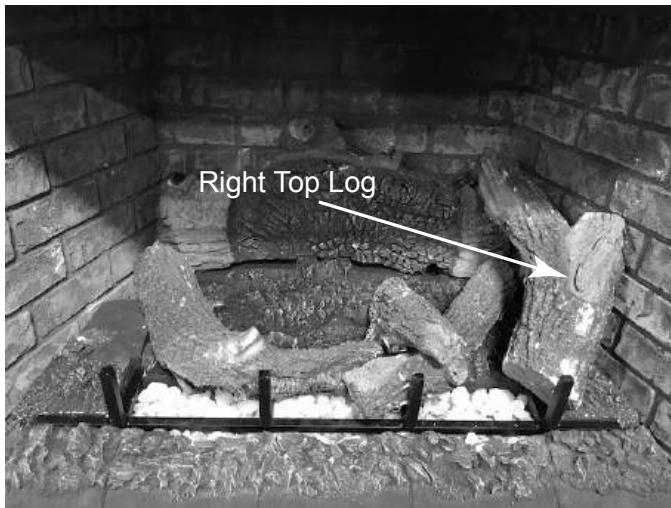

Figure 11.18
- Locate the right top log by placing the notch on bottom of right top log on to the locating point on top of rear log. Front of log will fit around right grate bar. See Figure 11.18.
- Place a small amount of 1/2 in. diameter pieces (dime-size) mineral wool on the burner pan as shown in Figure 11.18. The mineral wool may be placed loosely over the port holes in the burner pan. Do NOT press them onto or into the burner port holes. This will provide the “glowing embers” look.